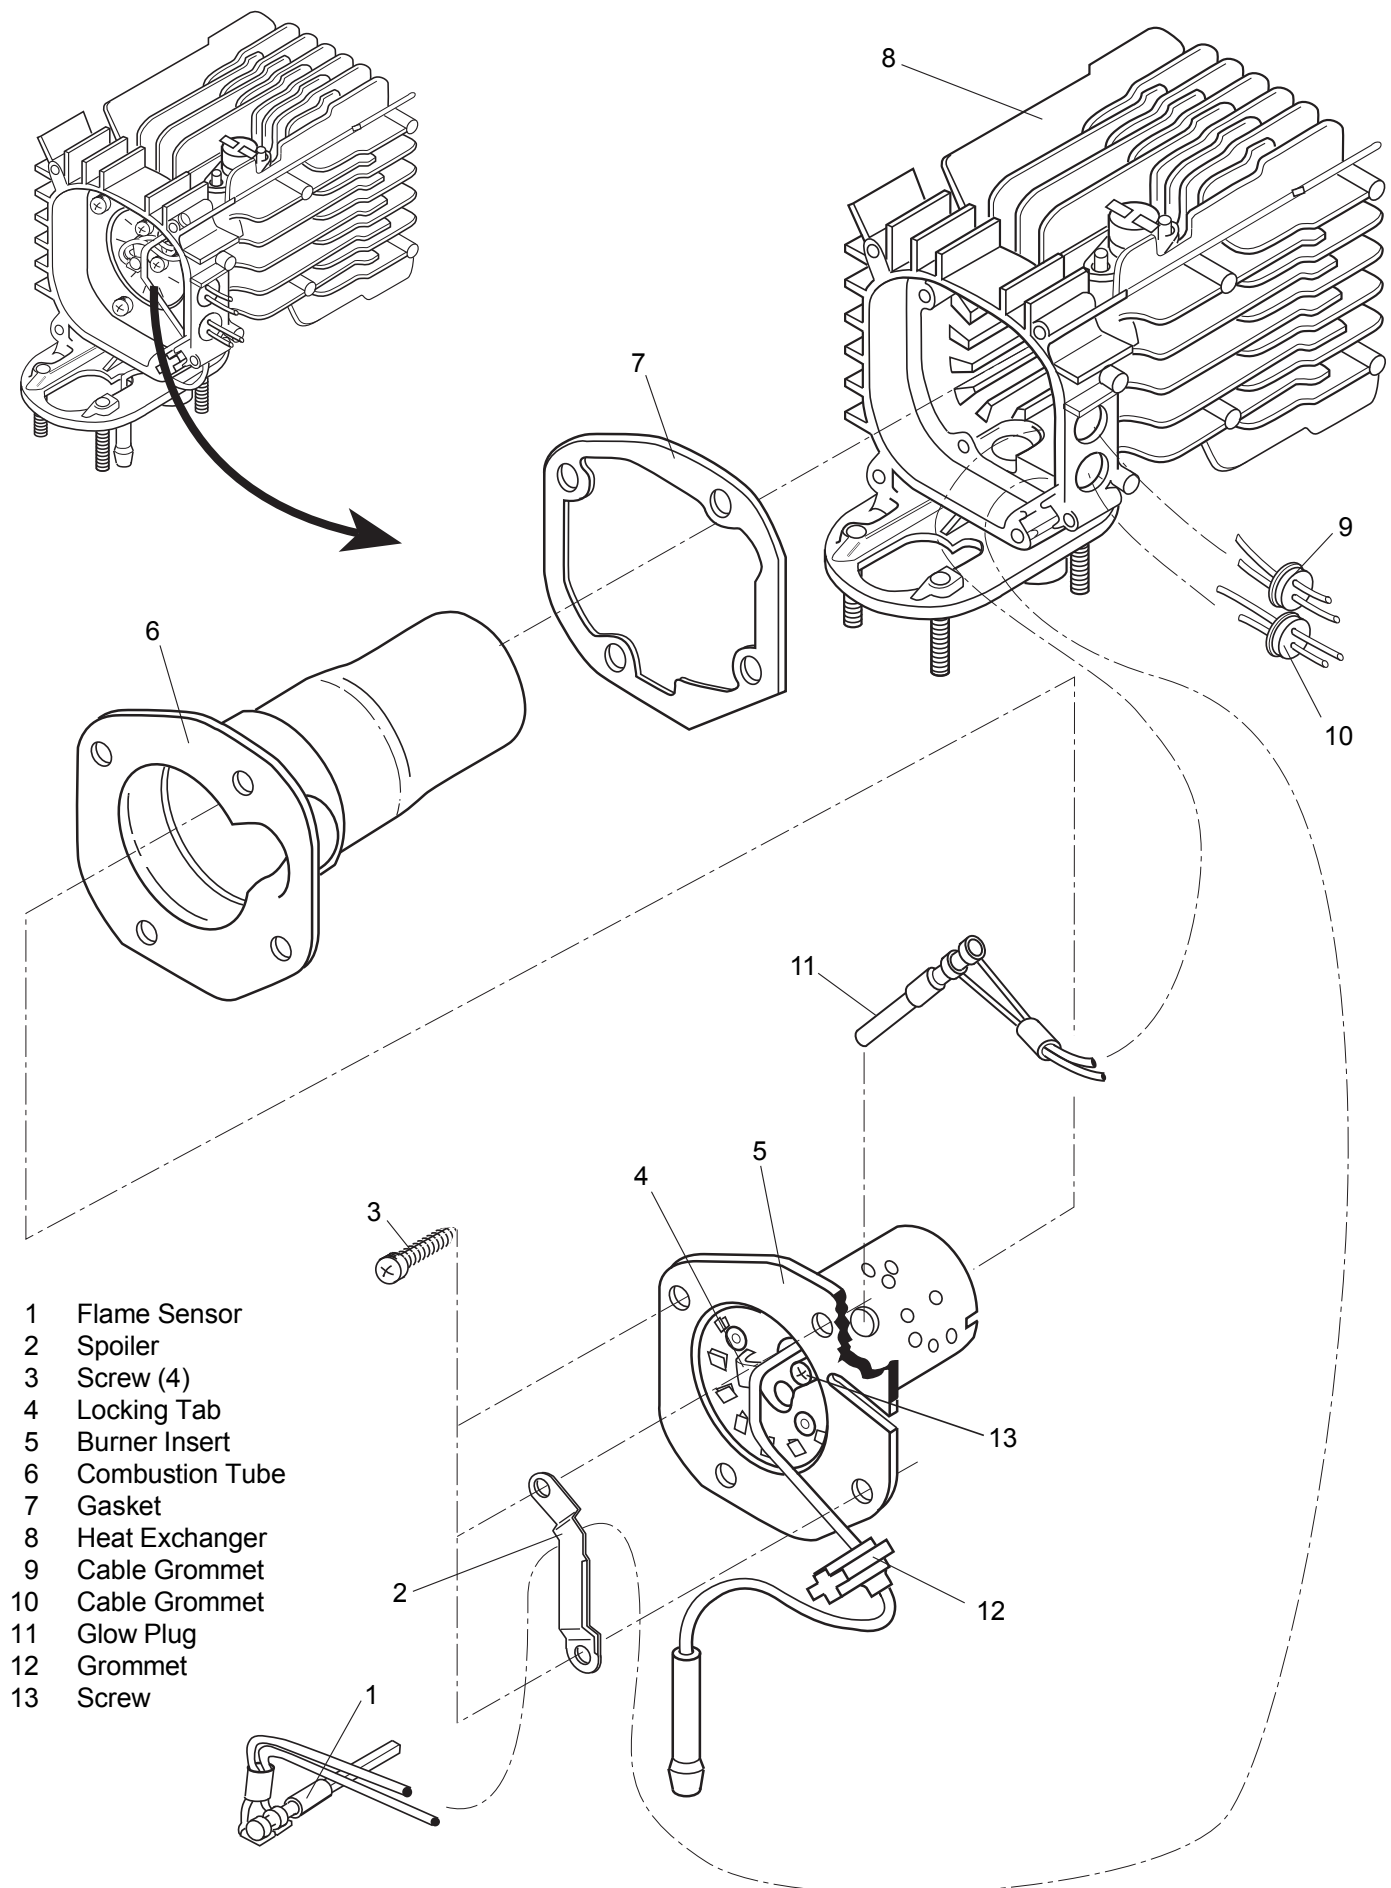

Fig. 905 Disassembly of Heat Exchanger (Sheet 1 of 2)
4. Remove screws (3, Fig. 905) and spoiler (2) for cable protection.
5. Push out cable grommet (10) towards inside.
6. Carefully bend up locking tab (4) and withdraw flame sensor (1) from burner insert (5).
1. Pass flame sensor (1, Fig. 905) below fuel pipe, feed connector through opening and push in cable grommet (10).
2. Feed cable with protection sleeve through locking tab and insert flame sensor (1) into burner insert (5).
3. Squeeze locking tab (4).
4. Secure burner insert (5) with four screws (3) and fit spoiler (2) for cable protection.
6. Torque all 4 screws (3) to 6 ± 0.6 Nm.
4. Push out cable grommets (9 and 10, Fig. 905) towards inside.
5. Remove four screws (3) and spoiler (2).
6. Tilt and withdraw burner insert (5) carefully.
1. Insert new gasket (7, Fig. 905) into heat exchanger and place combustion tube (6) in assembly position.
6. Remove burner insert (5, Fig. 905).
7. Withdraw combustion tube (6) from heat exchanger (8) and remove gasket.
2. Fit new gasket (7, Fig. 905).
3. Bring combustion tube (6) in assembly position.